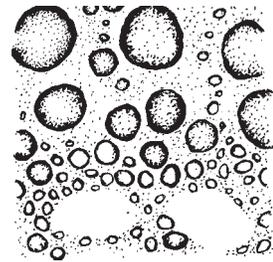

figure 6
M. Skin granules appear greasy under hand lens (see figure 6). Body is light gray to black. Narrow indistinct striped down middle of back. No distinct spots. Spiracles and tubercles black. Most common cutworm in Wisconsin. Seen in corn, turf and vegetables. **Black Cutworm** *Argrotis ipsilon*